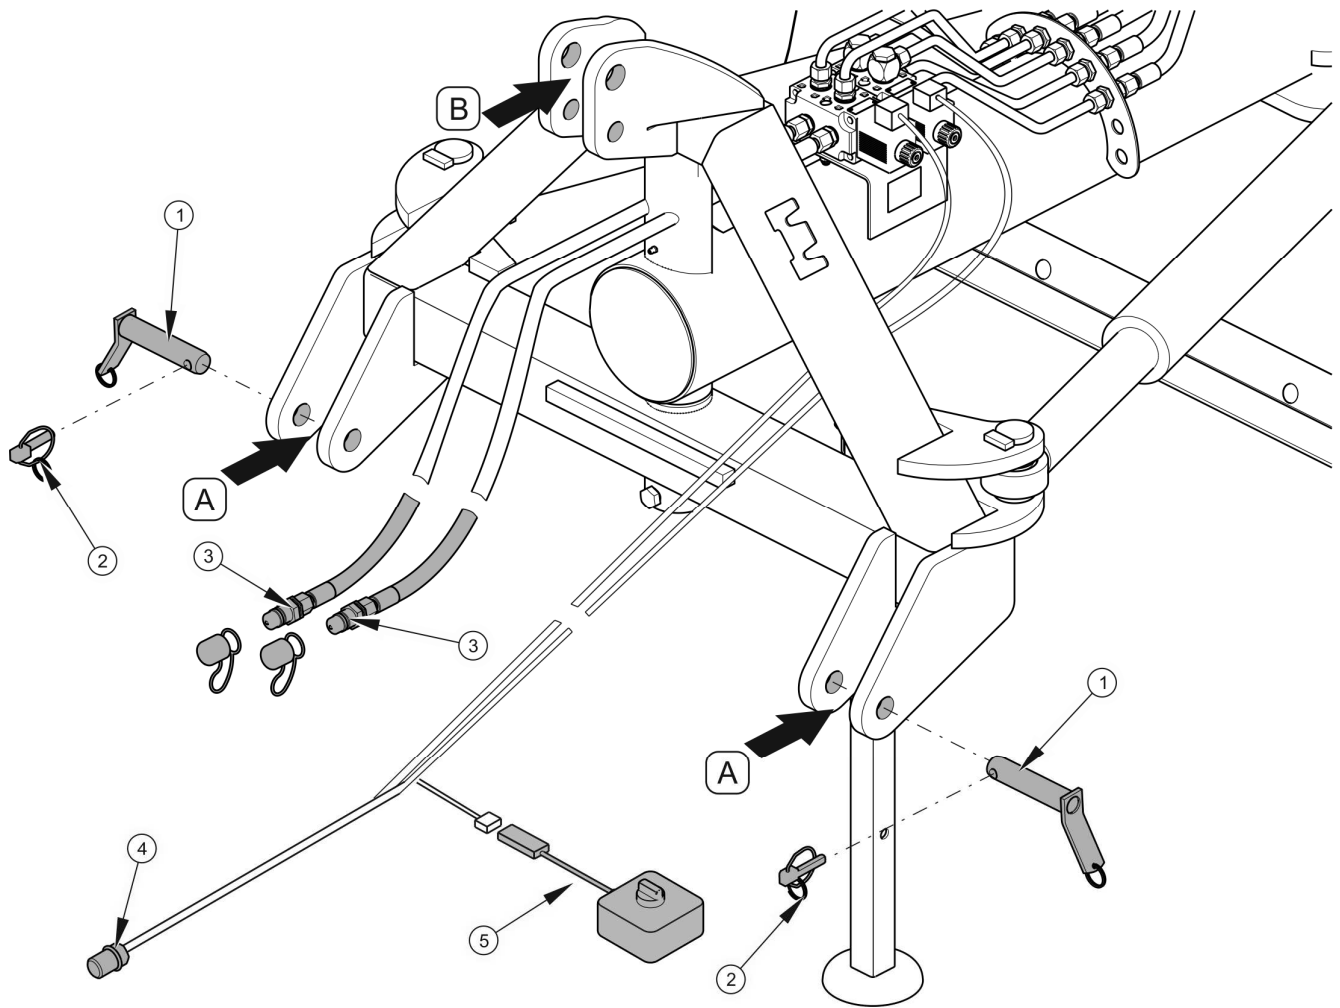
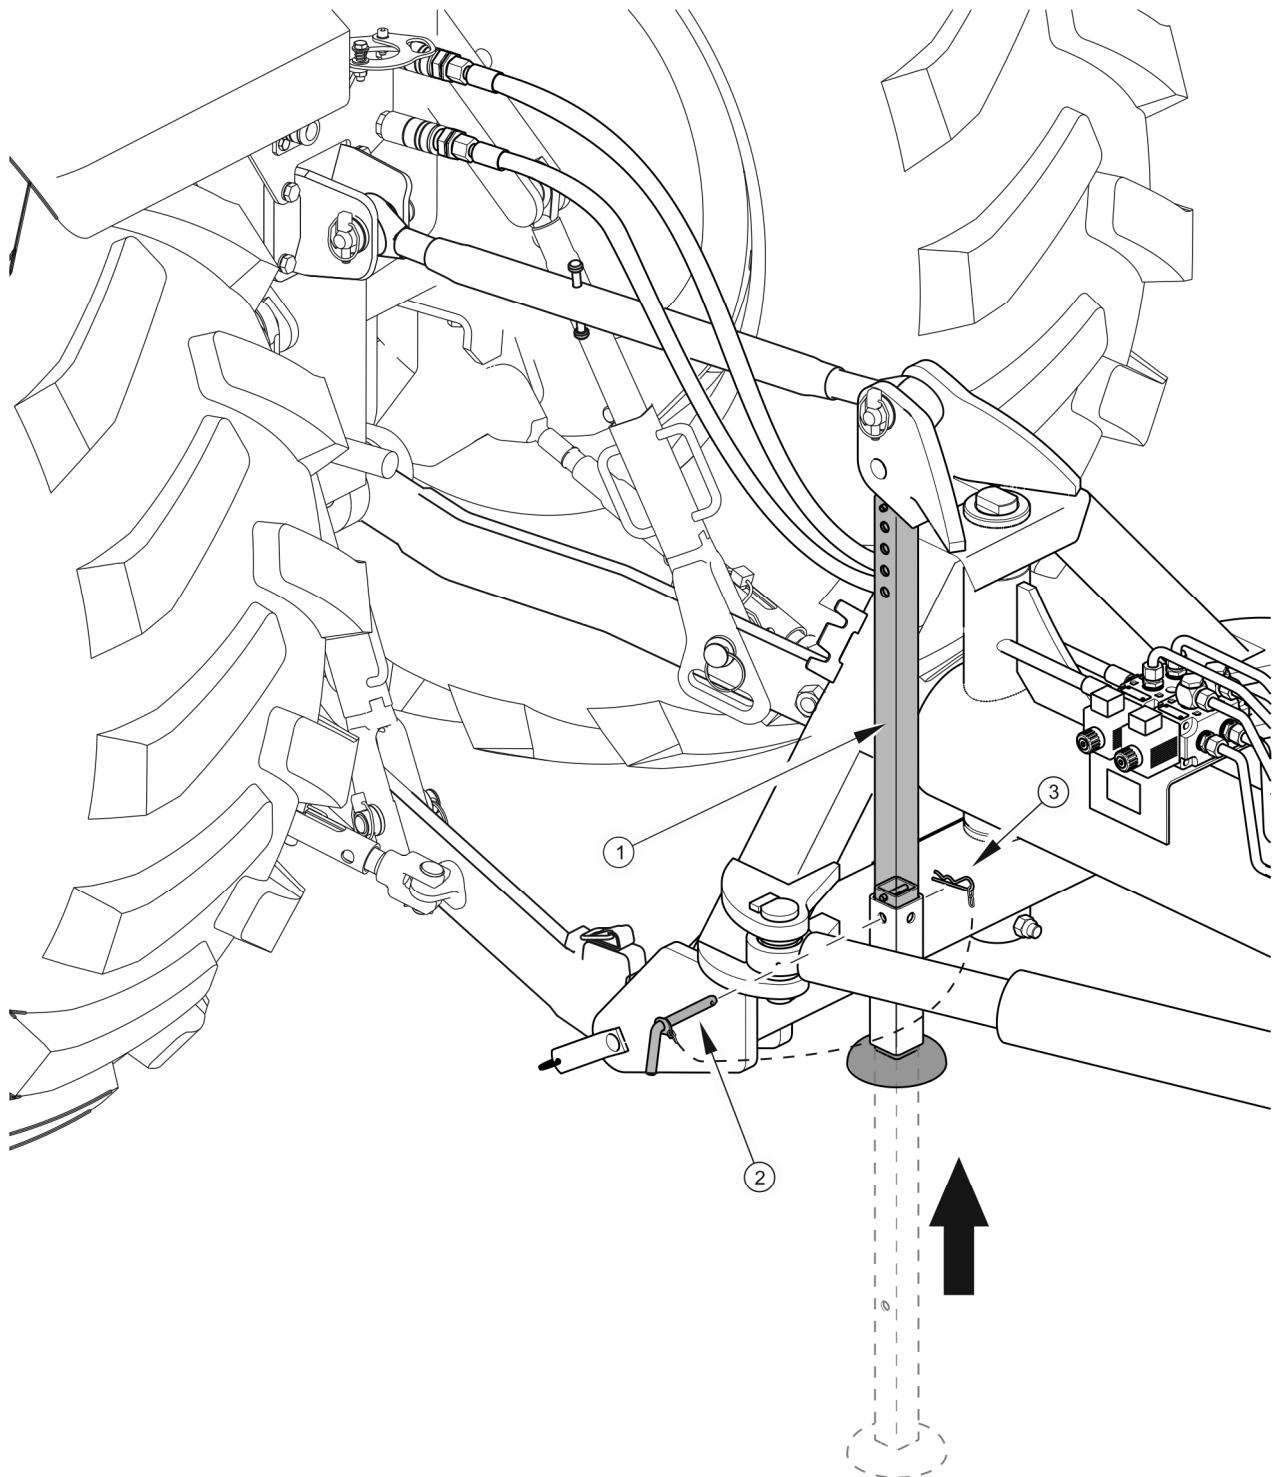

FIGURE 4.1 Hitching to tractor
FIGURE 4.2 Parking stand
- Reverse the tractor and bring the lower links of the tractor three point linkage close to mounting points (A) on the road grader frame - (FIGURE 4.1).
- Connect the lower mounting points (A) with the lower links of the tractor three point linkage using pins (1) and secure them with cotter pins (2).
- Connect top link (B) of the tractor three point linkage with upper mounting point (B) and secure it.
- Connect quick couplers (3) of hydraulic lines to the tractor external hydraulic system.
- Connect the 3-pin plug (4) of the electrical system to the 3-pin socket in the tractor.
- Connect the switch (5) to the main wiring harness and place it in the operator's cab in an accessible place ().
- Raise the parking stand (1), lock it in its position with the linchpin (2) and secure it with the cotter pin (3) - (FIGURE 4.2).